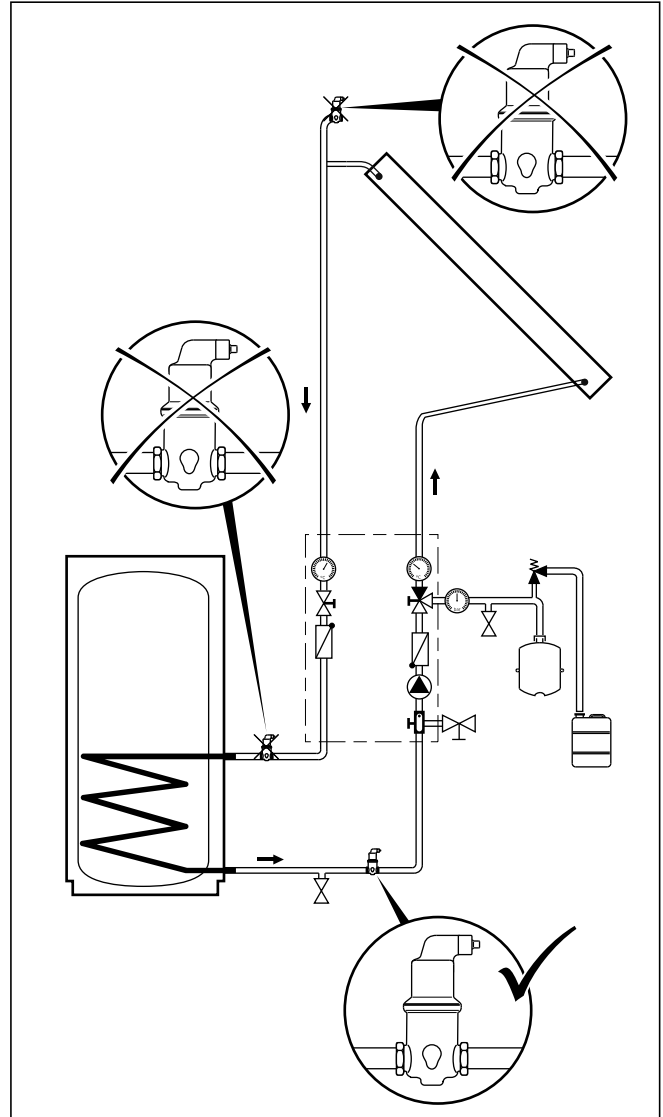

Fig. 6.2 Automatic air separator system
- Venting via an air separator system (→ Fig. 6.2)